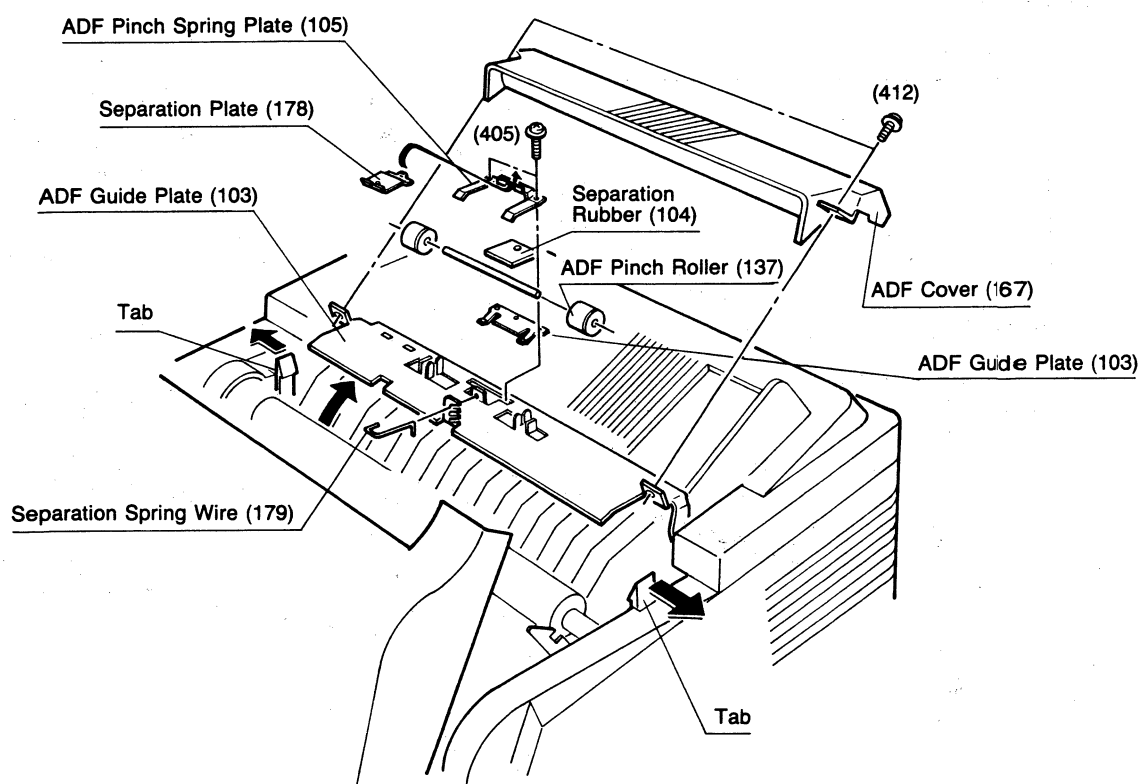

Figure 4.3.5
- (1) Remove the ADF cover (167). (See Figure 4.3.5.)
- (2) To change the separating force, move the rod vertically and set it in the desired notch position while sliding it to the right slightly by pinching the tip of the rod with your fingers.
- (3) Adjust the rod setting position into a balanced condition depending on the single or multiple document feeding.